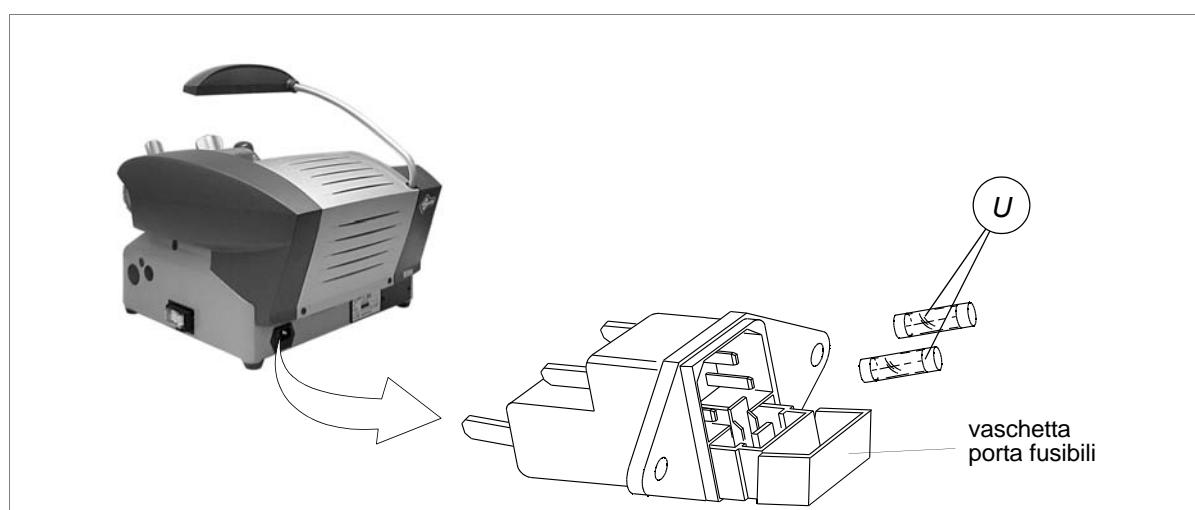

Fig. 31
- 3) Remove the fuses box placed below the key-cutting machine socket (fig.31).
- 4) Replace the fuses (U).